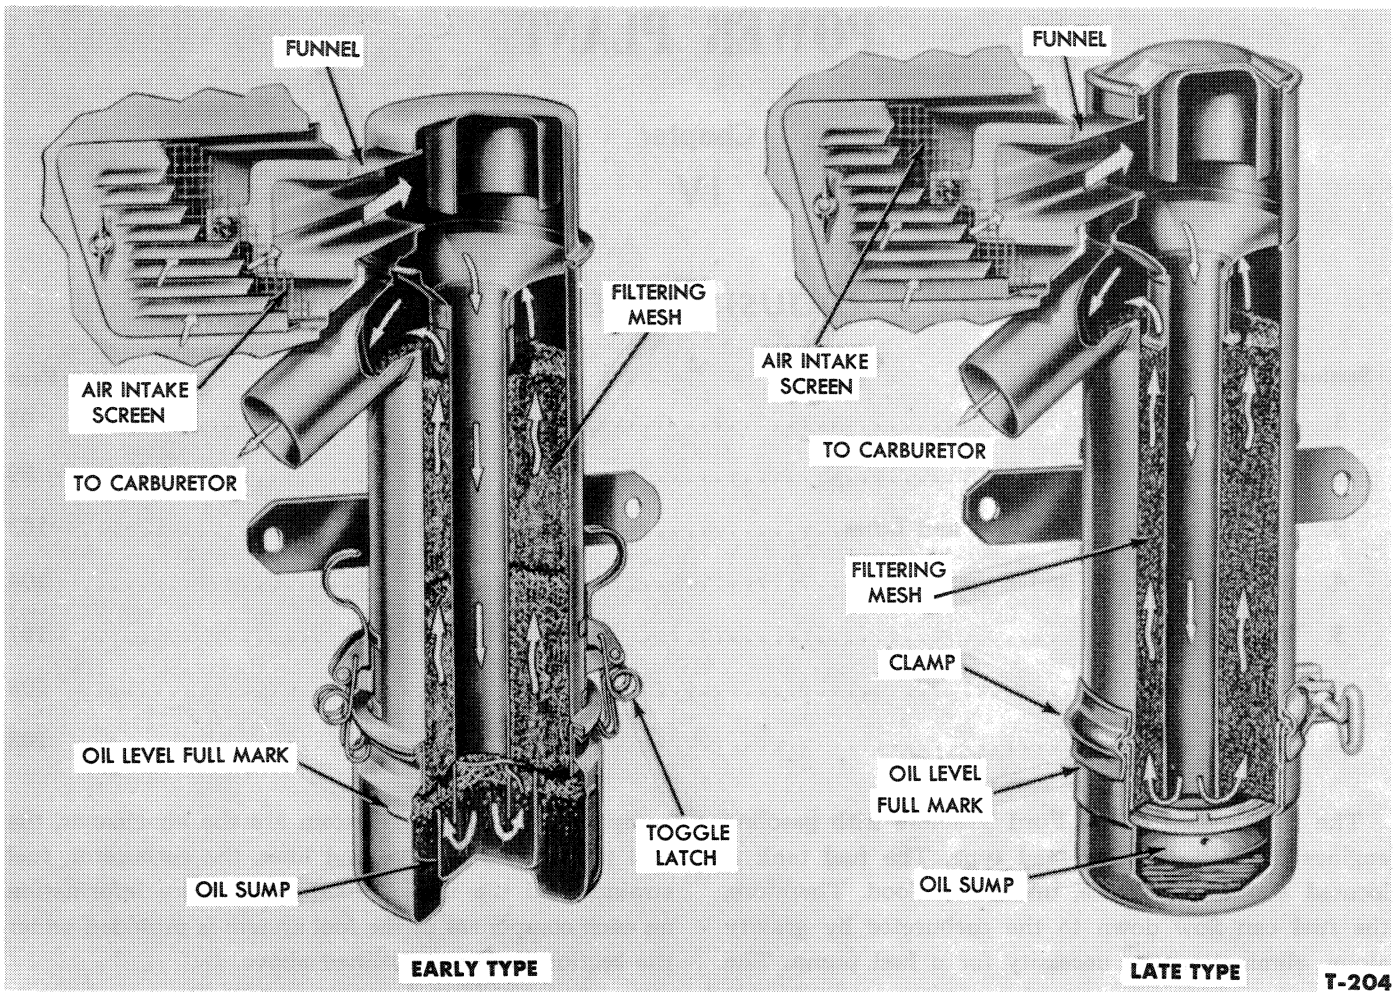

Figure 1—Carburetor Air Cleaner
Ford Tractors are equipped with an oil bath type air cleaner, Figure 1. The air cleaner is mounted on the left side of the tractor at the rear of the engine. The air intake for the air cleaner is located in the hood left side panel, just above the air cleaner. As the air enters the air cleaner, coarse trash, such as leaves, is filtered out by the air intake pre-cleaner screen located in the side panel. The air is channeled down through the center tube of the air cleaner into the oil where most of the contaminants are removed. After the air leaves the oil bath, fine dust remaining in the air is filtered by the fine wire mesh through which all air passes before entering the carburetor. With the air cleaner constructed vertically, any dirt entering the cleaner falls down through the oil and remains at the bottom of the oil cup.
2. Remove the air cleaner cover from the side of the hood and then remove the air intake screen and the funnel leading to the air cleaner, Figure 1.
1. Unlatch the oil cup toggles or loosen the clamp, Figure 1, and remove the oil cup.